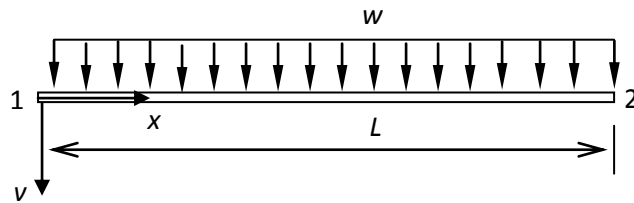

Figure 6
Next, derive Q for the case of uniformly distributed load as shown in Fig.6. It is given that the shape function used for displacement field v is as follows:
- (b). If it is given that the beam as shown in Figure 6 is fixed at end 1 and has constant flexural rigidity EI , obtain the stiffness equation to be used in finite element analysis. Use only one element in the modeling of the beam and use the symbols v^1 , θ^1 and v^2 , θ^2 to represent lateral displacement and rotation at end 1 and 2, respectively. Refer Appendix A for the stiffness matrix of a beam element.